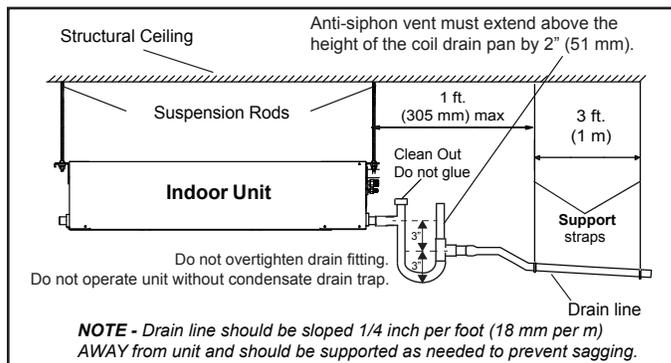

Figure 10. Sloped Condensate Gravity Drain Single Unit
3. See Figure 10 for applications including a single unit and a single gravity drain. In this case, ensure that the drain line is properly sloped (no less than 1/4 inch per foot) and condensate lines are routed to ensure moisture is drained away from the indoor unit.